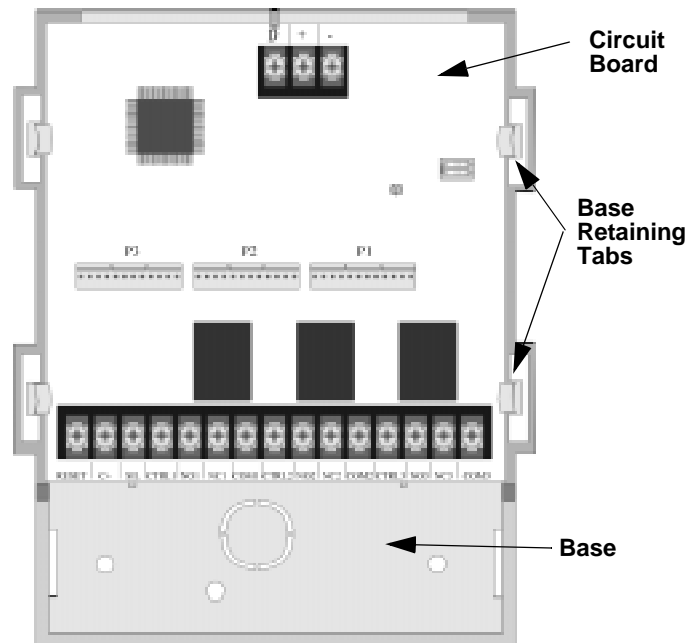

Figure 4-17 Circuit Board and Plastic Base Components
2. Remove the SK-2880 circuit board from the base by pushing outward on the base retaining tabs and lift the circuit board out. See Figure 4-17.